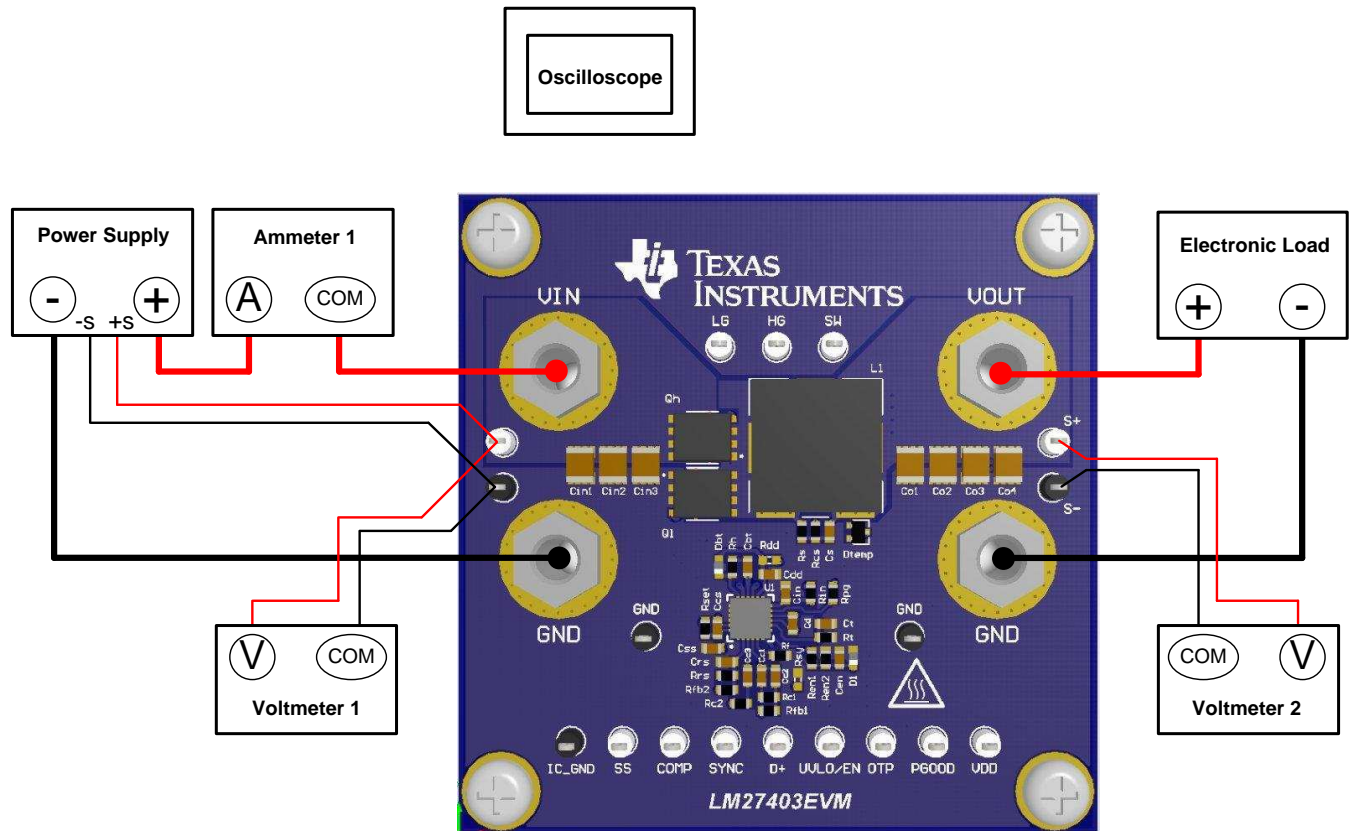

Figure 3. Connection Diagram
Figure 3 shows the recommended test setup to evaluate the LM27403 EVM. Working at an ESD workstation, make sure that any wrist straps, boot straps or mats are connected referencing the user to earth ground before power is applied to the EVM.
- Prior to connecting the DC input source, it is advisable to limit the source current to 10 A maximum. Make sure the input source is initially set to 0 V and connected to VIN and GND banana connections as shown in Figure 3. While the on-board OSCON electrolytic capacitor provides input circuit damping, an additional high-ESR input capacitor may be required if long input lines are used.